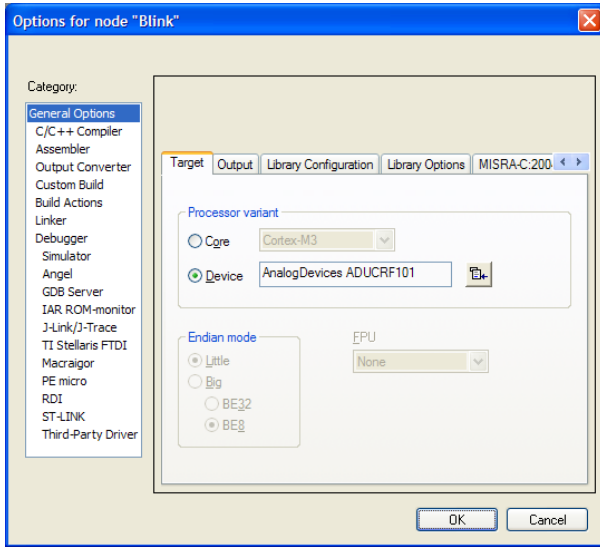

Figure 24. Selecting the Device
2. Click **General Options** in the **Category** box, and select **AnalogDevices ADUCRF101** as the device in the **Target** tab as shown in Figure 24.